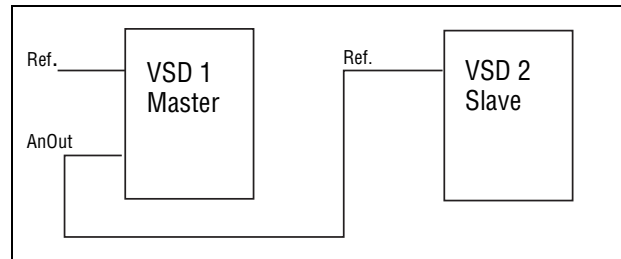

Fig. 100
- a reference signal for the next VSD in a Master/Slave configuration (see Fig. 100).